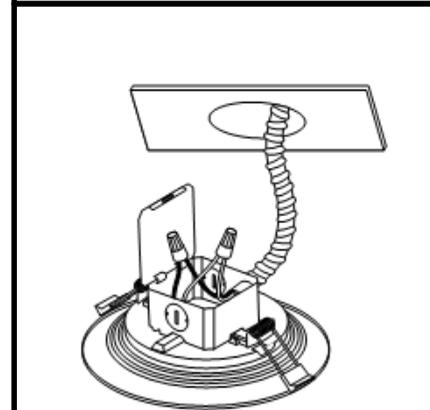

Fig. 11
2. Connect the quick connector from the frame to the quick connector from the LED trim. **[Fig. 11]**